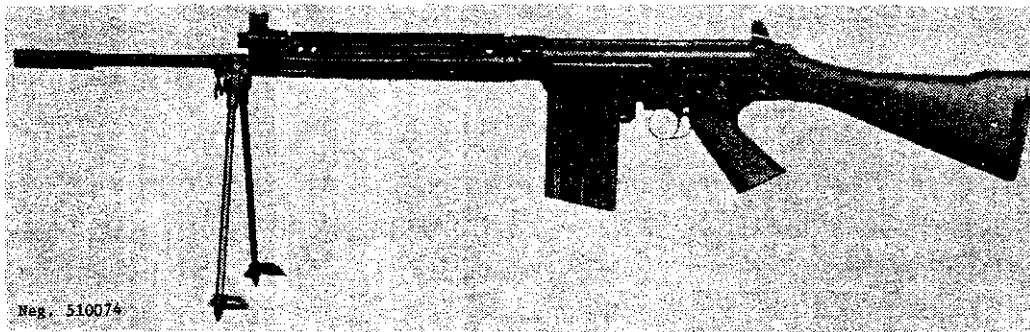
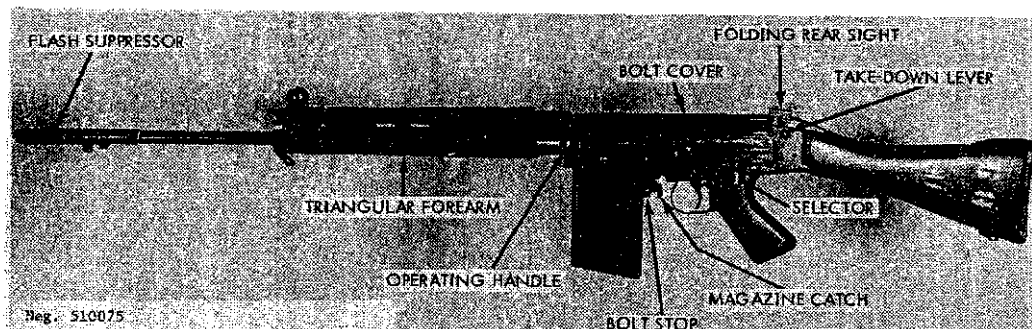

Figure 75. FN/FAL with metal forearm and bipod.
Figure 76. British L1A1 rifle.
b. Several modifications may help to determine the origin of a particular FAL. The West German G-1, the Austrian StG58, and the Dutch FAL all have a lightweight, folding metal bipod incorporated in their metal forestock (fig 75); the British L1A1 and Indian Ishapore rifles (fig 76 and 77), capable of